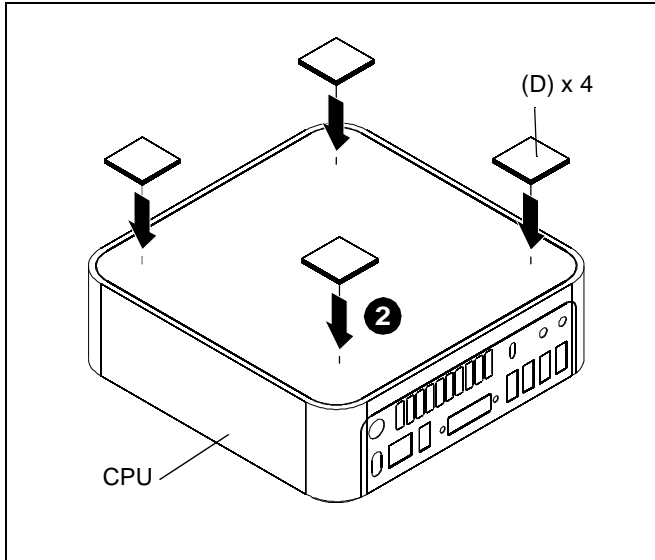

Figure 1
1. Remove paper from adhesive back of four hook and loop squares (D).
2. Attach four squares of hook and loop (D) to CPU side. (See Figure 1)